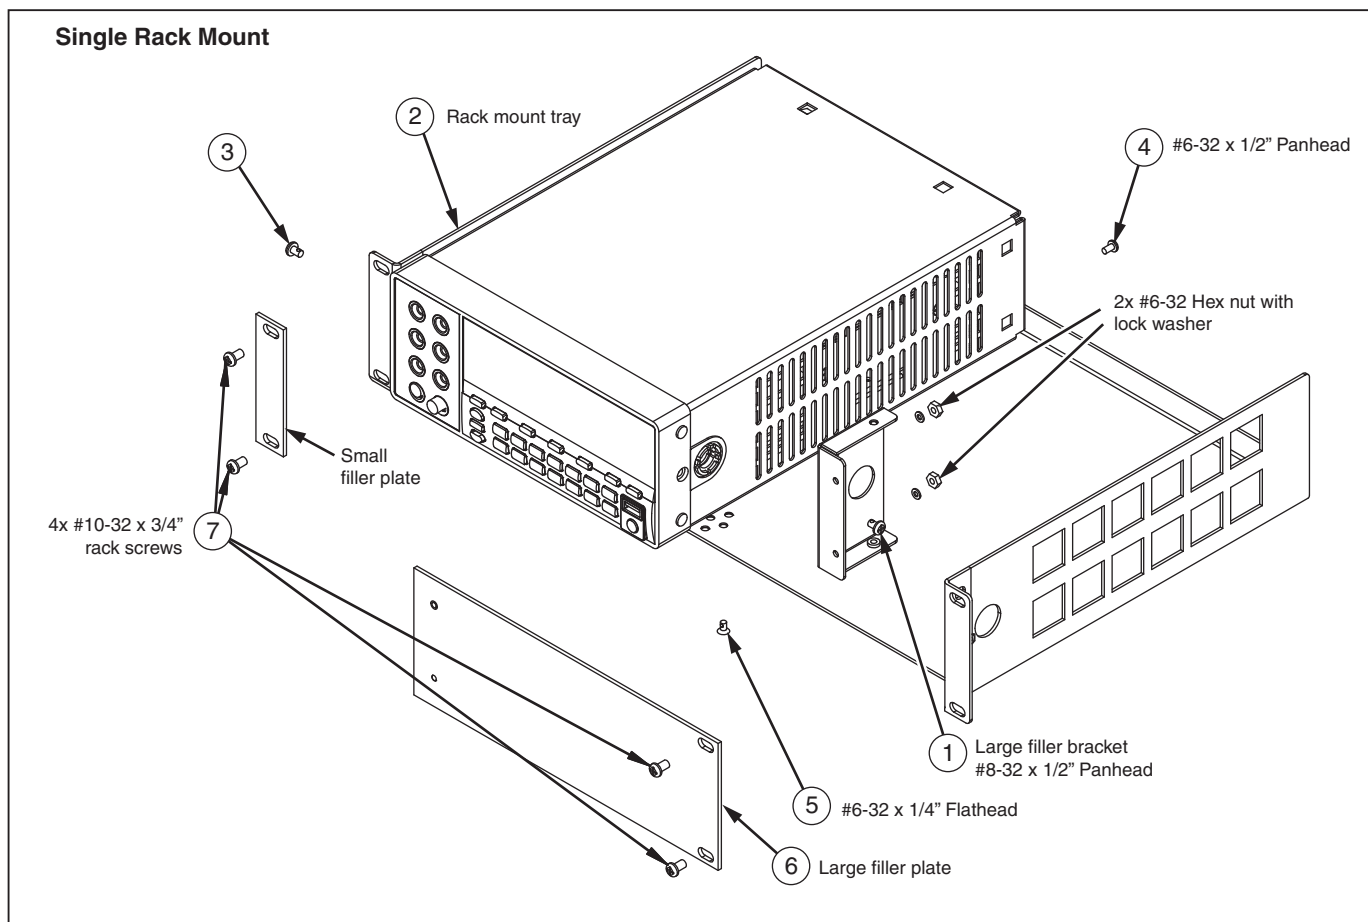

Figure 2. Single Rack Mount
1. Using one #8-32 x 1/2" panhead screw, attach the right angle filler plate bracket on the right front side of the Meter, keeping the smooth face with two holes of the bracket facing the front as shown in Figure 2.
3. Attach the Meter to the tray by inserting one (two for Hydra series) #8-32 x 1/2" panhead screw through the left-hand forward holes in the tray and into the side of the Meter as shown in Figure 2.
4. Insert a #6-32 x 1/2" flathead screw through the hole in the back of the tray and into the back of the Meter as shown in Figure 2.
5. Attach the filler plate bracket on the right side of the Meter to the bottom of the tray with a #6-32 x 1/4" flathead screw as shown in Figure 2.
6. Install the 9 1/2" painted filler panel to the right front of the tray by inserting the attached screws through the holes in the right-angle bracket and locking it in with lock washers and lock nuts as shown in Figure 2.
7. Install the assembled rack mount kit in the rack using the four rack screws with the painted 1" wide plate under the screws on the left-hand side of the rack mount tray as shown in Figure 2.